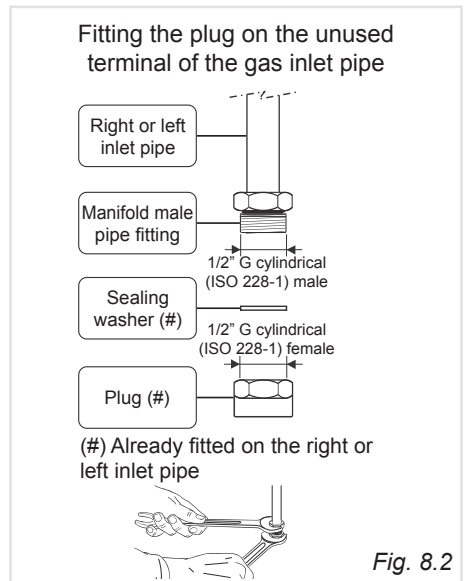

Fig. 8.2
- The unused inlet pipe must be closed off with the plug and sealing washer supplied (fig. 8.2).